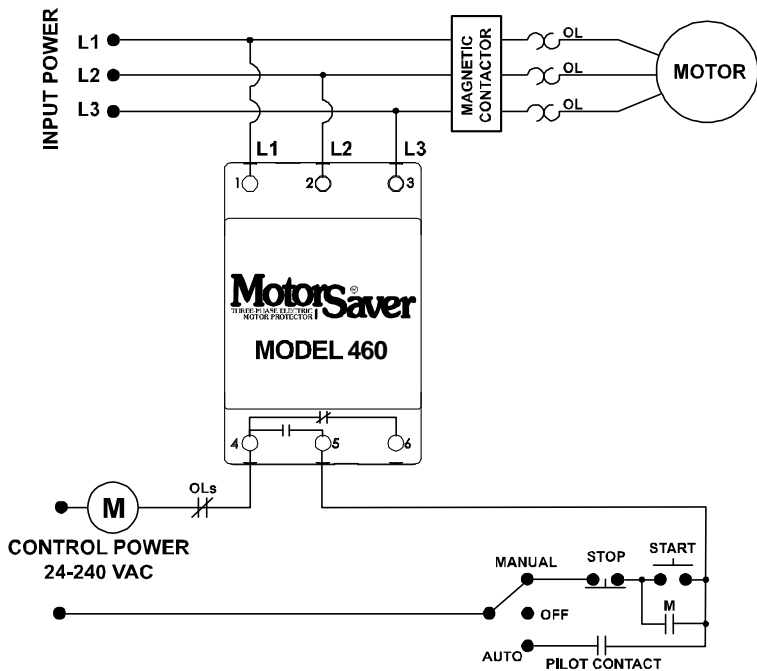

Figure 1. Motor Control Wiring Diagram
2. Connect L1, L2 and L3 on the MotorSaver's terminal strip to the LINE SIDE of the motor starter (see Figure 1).
3. Connect the output relay to the circuitry to be controlled. For motor control, connect the normally open contact in series with the magnetic coil of the motor starter as shown in Figure 1. For alarm operation, connect the normally closed contact in series with the control circuit as in Figure 2.